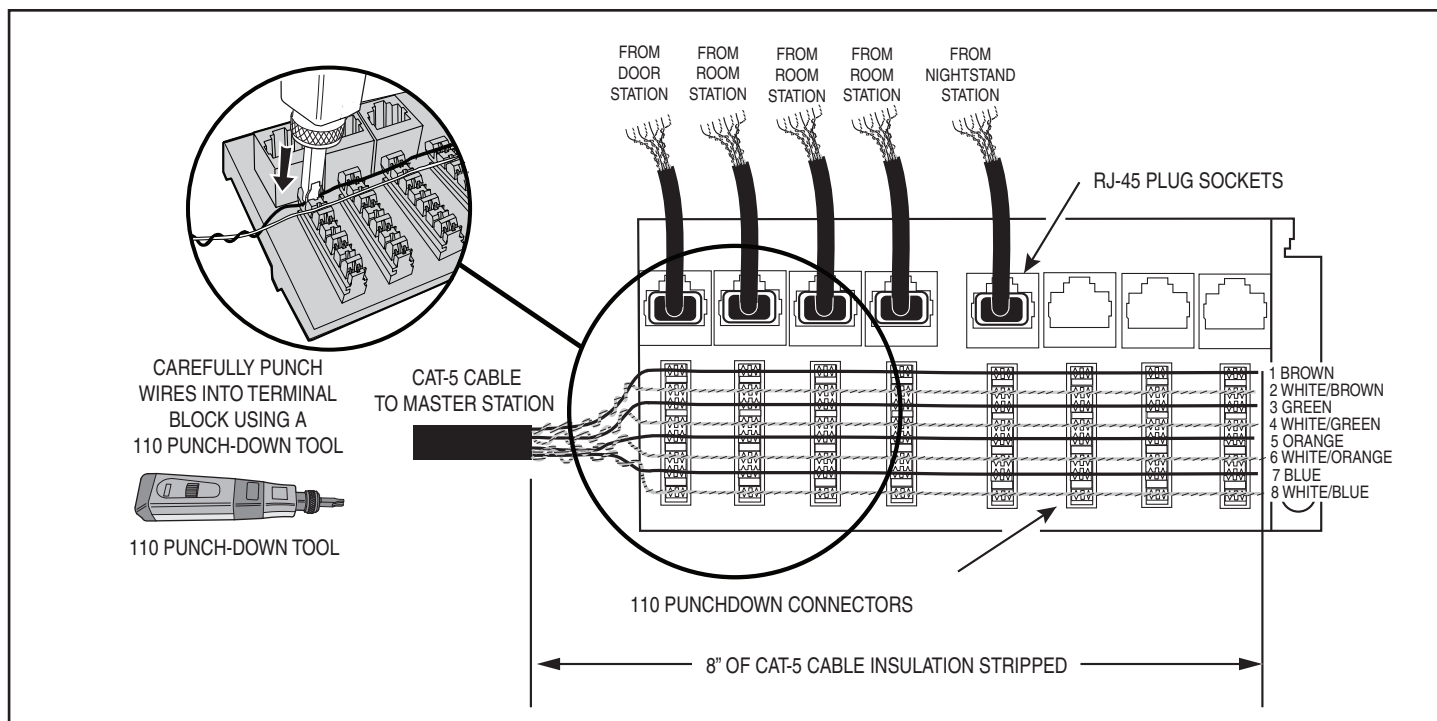

Figure 8. H628 Data Hub Wiring
4. Strip back about 8" of cable insulation and use a 110 Punch-down tool to bridge all of the punch-down connectors with the Cat-5 cable as shown in Figure 8.